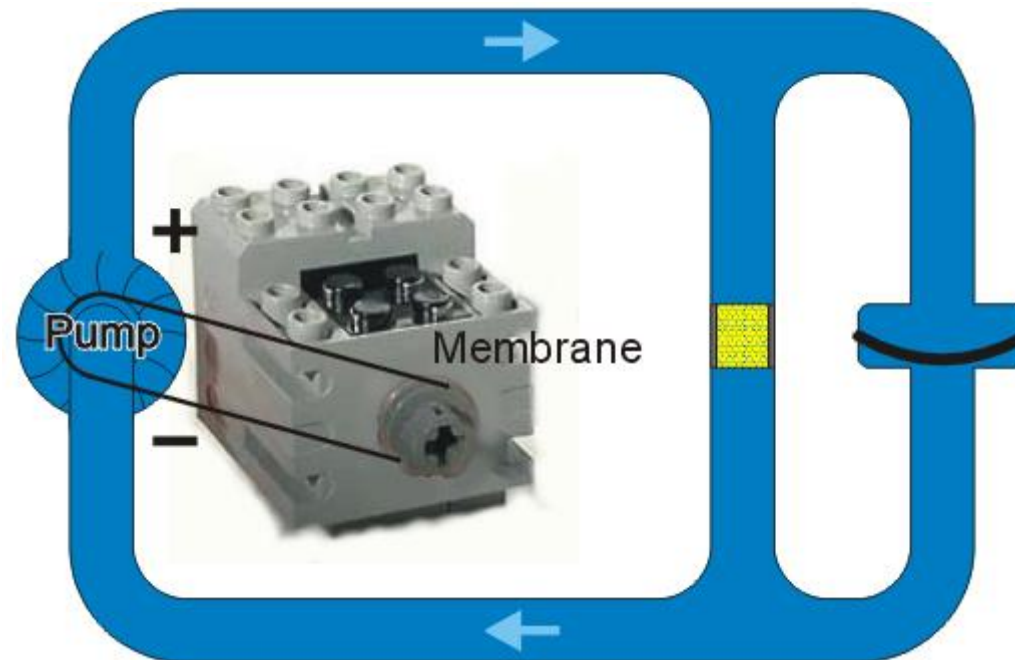

Fig 7: A membrane in parallel with a sand filter.
- Let us put a resistor in parallel with the membrane (**Fig.7**).